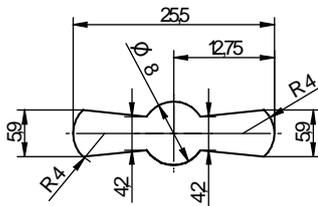

Fig. 1: Key Guide 86101
- Use of the Kaba Mauer key guide (see Fig. 1) is recommended. Considering DIN 2768-mH, the keyhole in the door of the secure storage unit should be dimensioned accordingly (see Fig. 1).